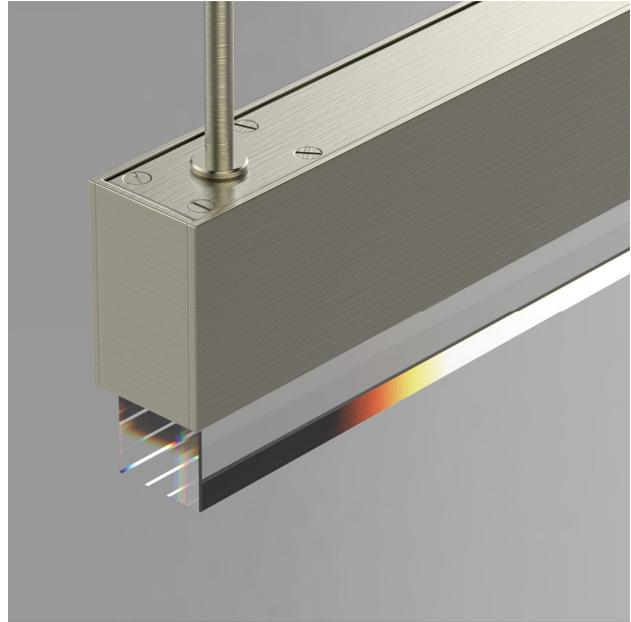

Figure 13
- Secure with four screws on both ends as shown (Figure 13)